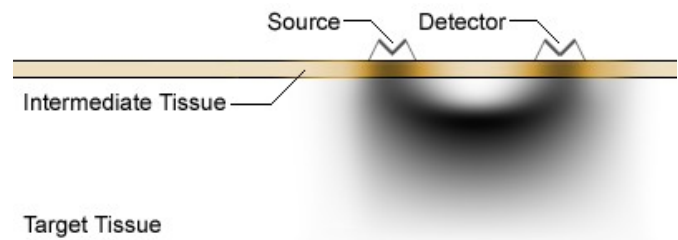

Figure 4-1: Simulated Photon Diffusion Path
- All biological tissue is, to differing extent, permeable to electromagnetic (EM) radiation of different frequencies and intensities. This can also be considered permeability to photons of different energy levels. This permeability to EM energy is the basis of all imaging based on transmission/scattering characteristics such as x-ray, CT Scan, and NIR imaging. From the principles of spectroscopy, it is also known that different tissues absorb different wavelengths of light. The Infrascanner is concerned with NIR imaging of the hemoglobin molecule.
- Photons follow a characteristic path through tissue when the source is on the same plane as the detector. While the light is severely attenuated due to the scattering and absorption process, it is encoded with the spectroscopic signatures of the molecules encountered en route to the detector. By choosing the wavelengths that are produced by the source, it is possible to detect the relative concentration of haemoglobin in the target tissue. Figure 4-1 shows the simulated diffusion path through target tissue from source to detector.